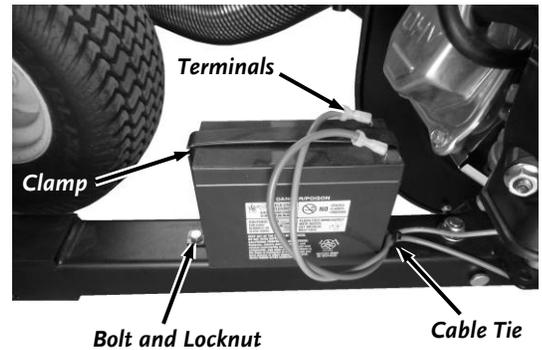

Figure 94
1. Disconnect the Battery Terminals (**Figure 94**).